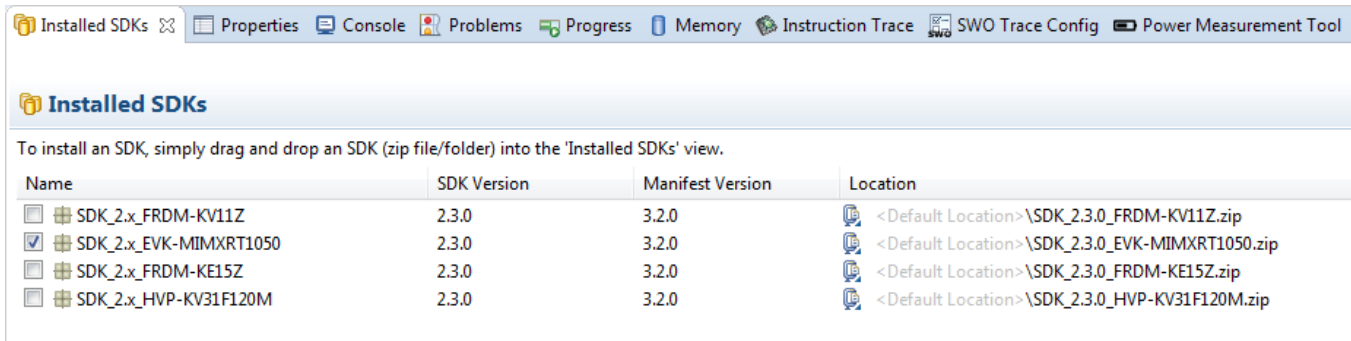

Figure 8. MCUXpresso installed SDKs
4. Open the MCUXpresso IDE. On the bottom of the workspace, there is a panel with some tools. Click “Installed SDKs” (Figure 8) and drag and drop the downloaded file into the “SDKs” field.